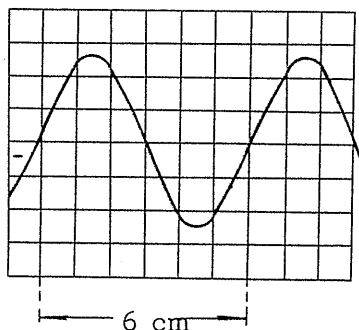

Fig. 5
3. Use the Vertical and Horizontal POSITION controls to get the trace into a suitable position for taking measurements. See Fig. 5